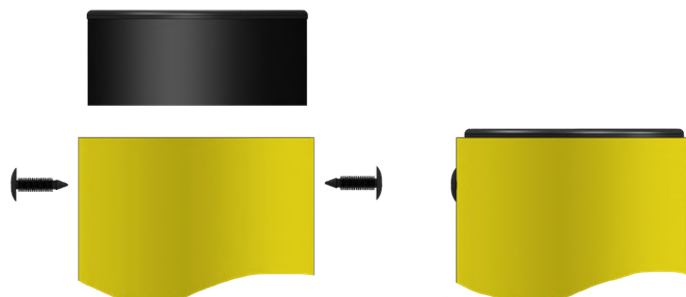

Figure 4. Installation of post caps
5. Cover the tops of the posts with caps. To fix the caps, drill 7 mm holes at a distance of 20 mm from the top of the post in one plane and insert the screws. (Fig. 4)